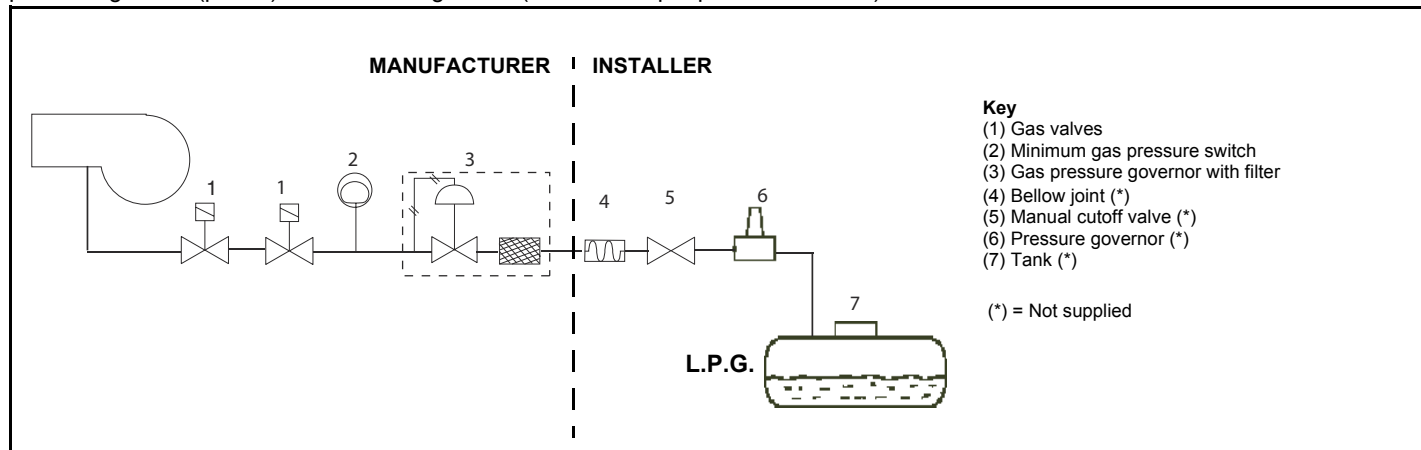

Fig. 4
**DANGER! Incorrect motor rotation can seriously damage property and injure people. ATTENTION: once the gas train is mounted according to the diagram on Fig. 4, the gas proving test must be performed, according to the procedure set by the laws in force.**